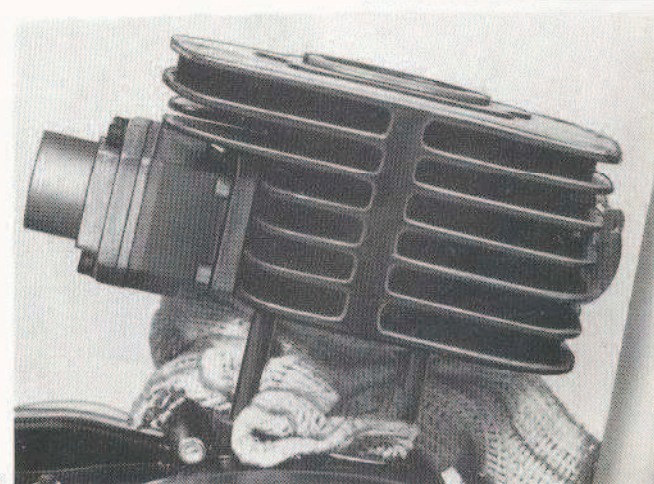

Fig. 23.4
2. Lift up the cylinder about 5 cm from the crankcase and place a piece of clean cloth in the crankcase opening to prevent dirt from entering the crankcase. See fig. 23.4.